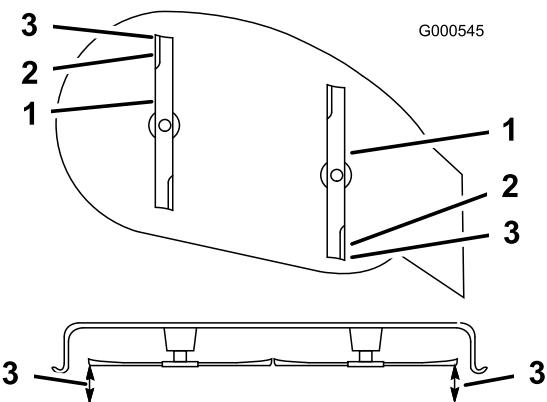

Figure 37
6. Measure from the top of the front blade to the flat surface and the tip of the rear blade to the flat surface (Figure 37). If the front blade tip is not 0 to 1/4 inch (0 to 6 mm) lower than the rear blade tip, adjust the front locknut.
**Note:** Continue adjusting the nut until the front blade tip is 0 to 1/4 inch (0 to 6 mm) lower than the rear blade tip (Figure 37).